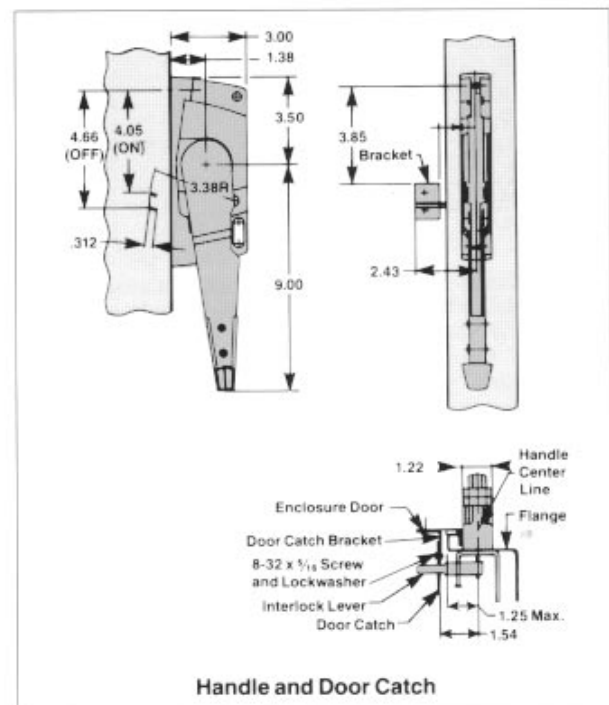

Figure 4
- B. Turn handle ON and attempt to open door. The interlock should hold the door closed. If the door can be opened, readjust the door catch upward in its slot. Repeat Steps A and B to insure the door cannot be opened when the handle is in the ON position. Figure 4 shows the location of the handle and door catch when mounted in the enclosure.